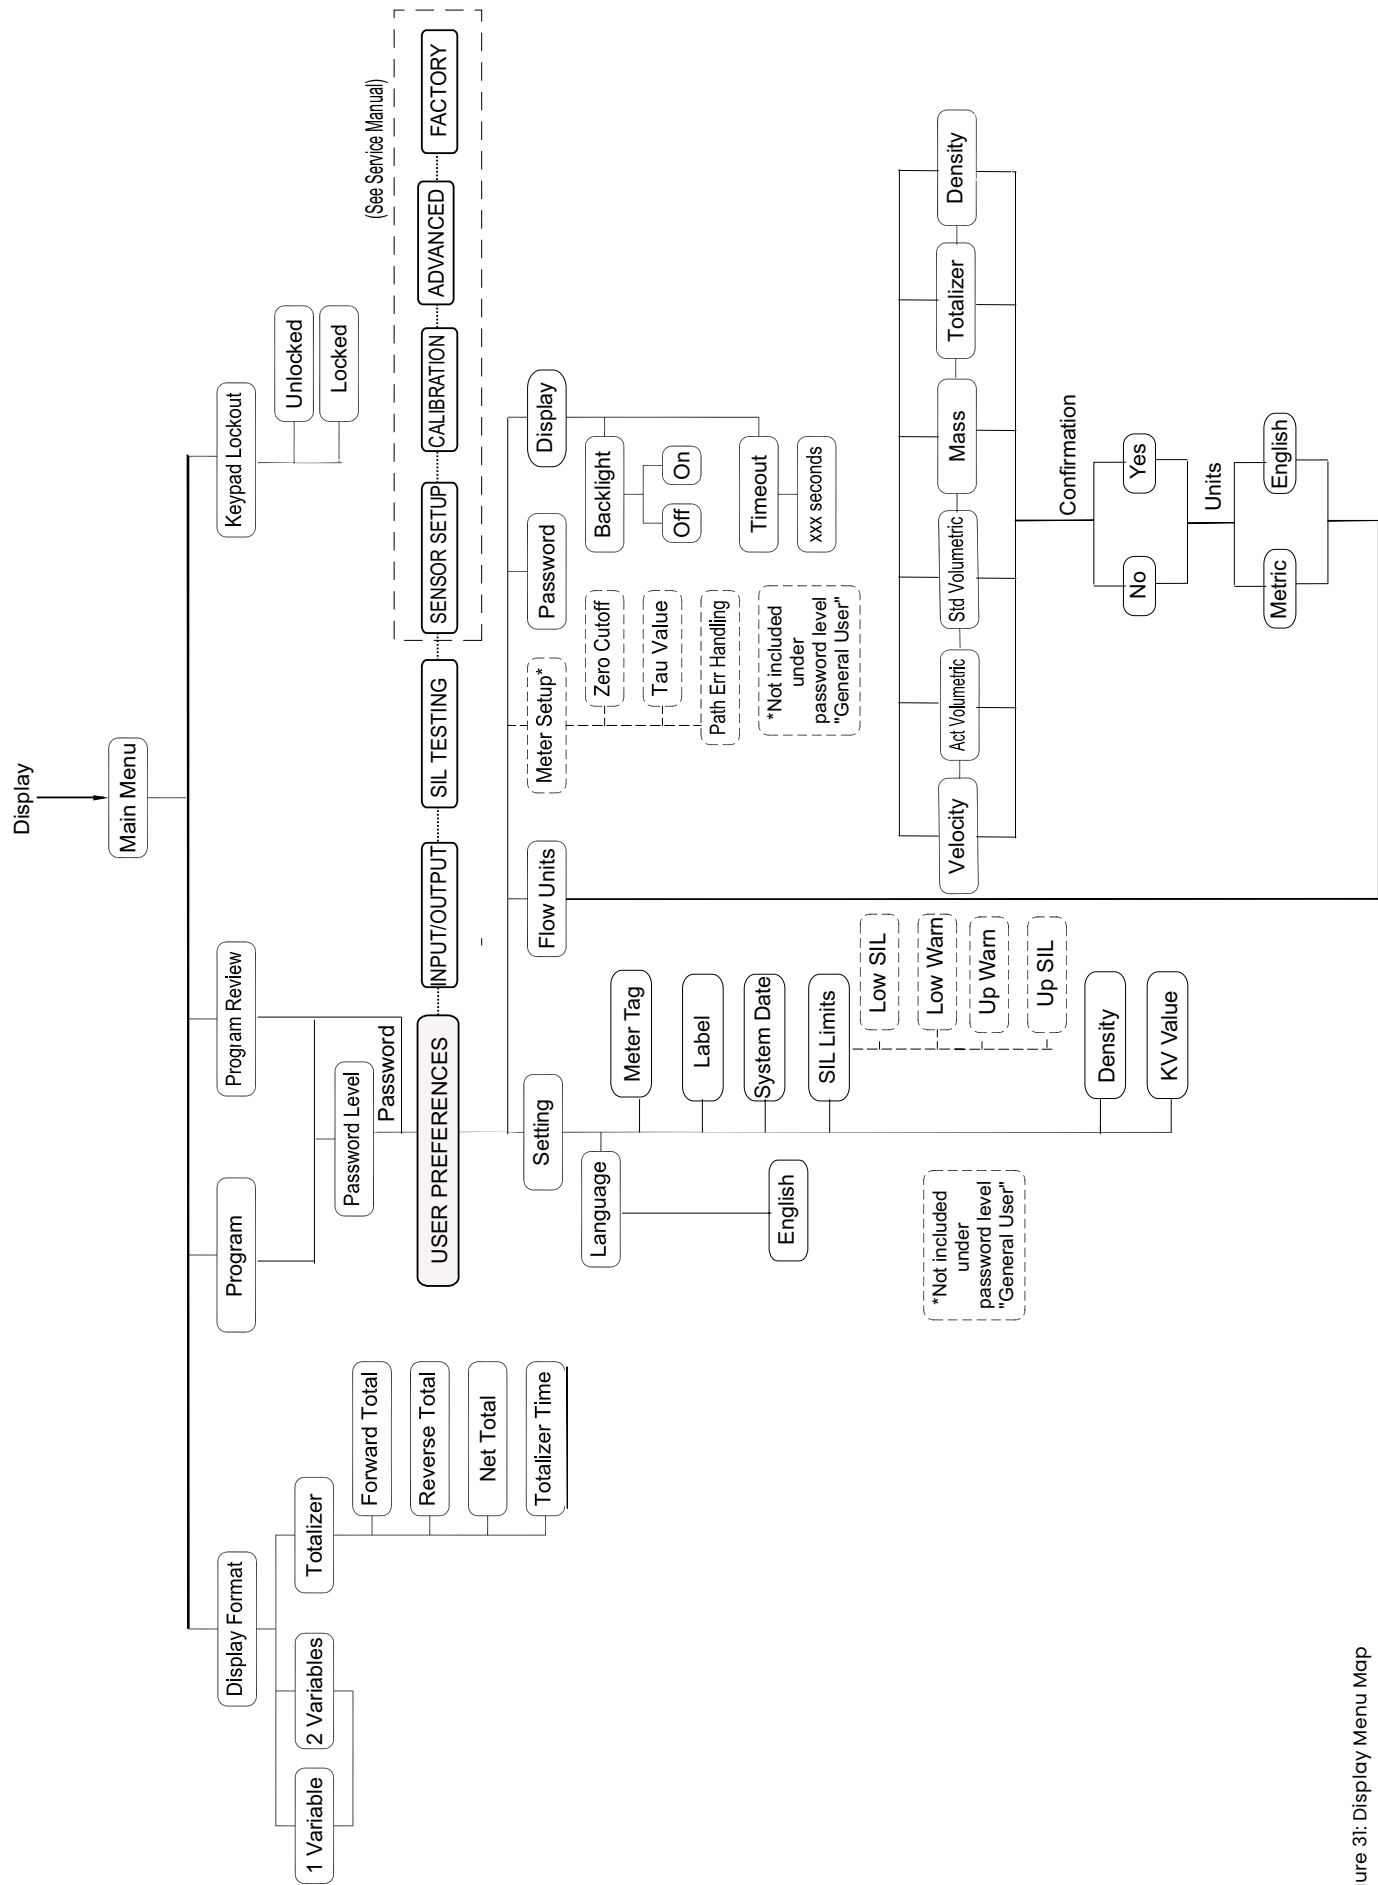

Figure 31: Display Menu Map
- Figure 31, “Display Menu Map,” on page 93